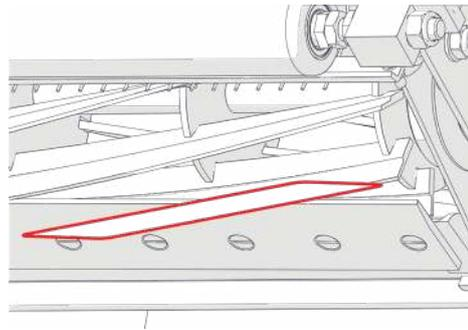

Fig.23B - Repeating adjustment for other side
4. Choosing the left or right hand side of the cassette, test the cut by moving the cassette blade with a gloved hand and using a piece of paper between the cassette and shear blade (Fig.23B). If it does not cut the paper, or does not cut cleanly, then adjustment of